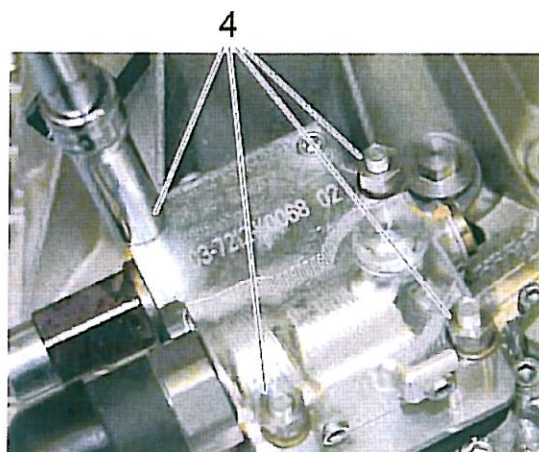

Figure 22
17. Fit one special nut (item 4) onto each of the stud bolts and tighten up the four special nuts (item 4) proceeding cross-wise to the specified tightening torque. See Figure 22.